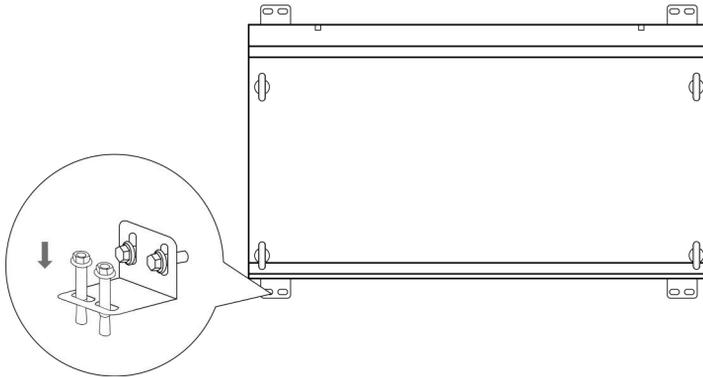

Figure.2-3
4. Fix the 4 angle steels to the ground using 8 expansion screws (M16*100). (Figure.2-3)